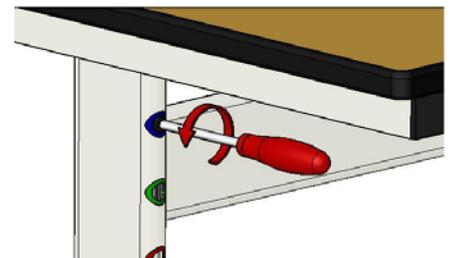

Figure 3
- Then unscrew the locking screw again (Fig. 3).